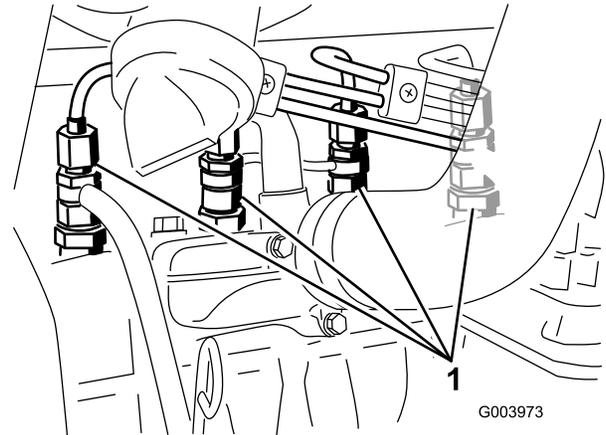

Figure 32
1. Loosen the pipe connection to the No. 1 nozzle and holder assembly (Figure 32).